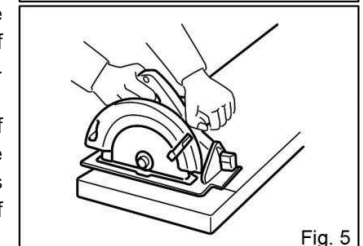

Fig. 5
25. Place the wider portion of the saw base on that part of the workpiece which is solidly supported, not on the section that will fall off when the cut is made. As examples, Fig. 5 illustrates the RIGHT way to cut off the end of a board, and Fig. 6 the WRONG way.